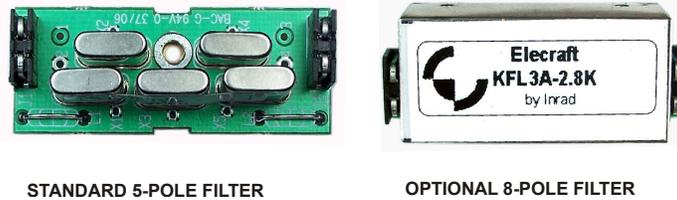

Figure 1. Filter Types.
**Crystal Filter.** There are two types of crystal filters, the standard 5-pole filter with discrete crystals and the enclosed 8-pole filters as shown in Figure 1. The installation process is the same for each type. Markings on the crystal will vary depending upon the bandwidth and type of filter.